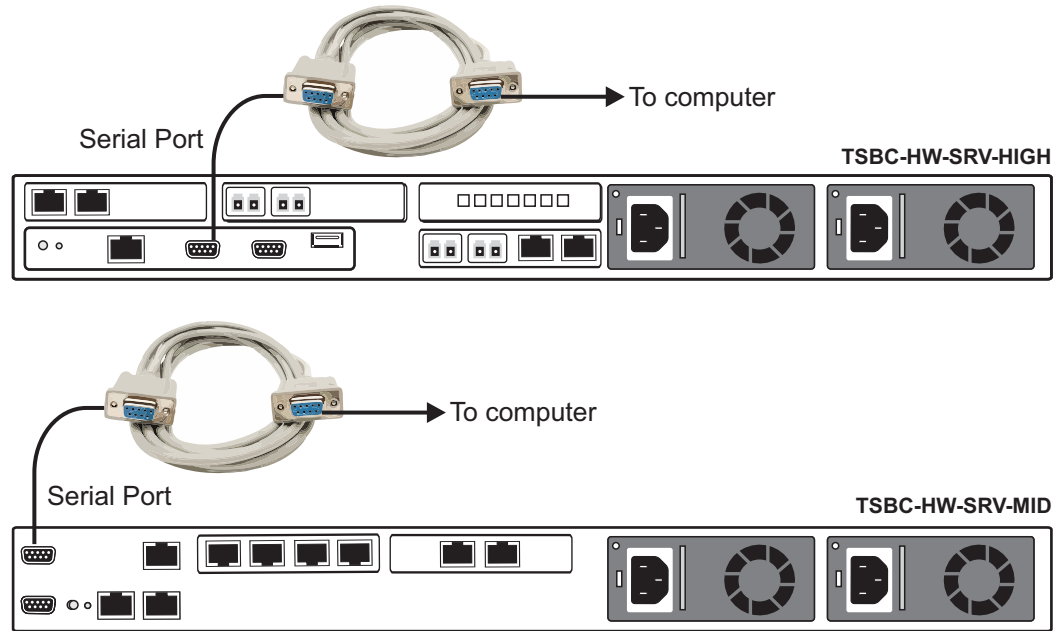

Figure 7.2 TSBC-HW-SRV Serial Port Connection
1. Connect a null modem DB9 female-female cable between the DB9 serial port of your computer and the DB9 serial port of the TSBC-HW-SRV. See figure 7.2 on page 39.